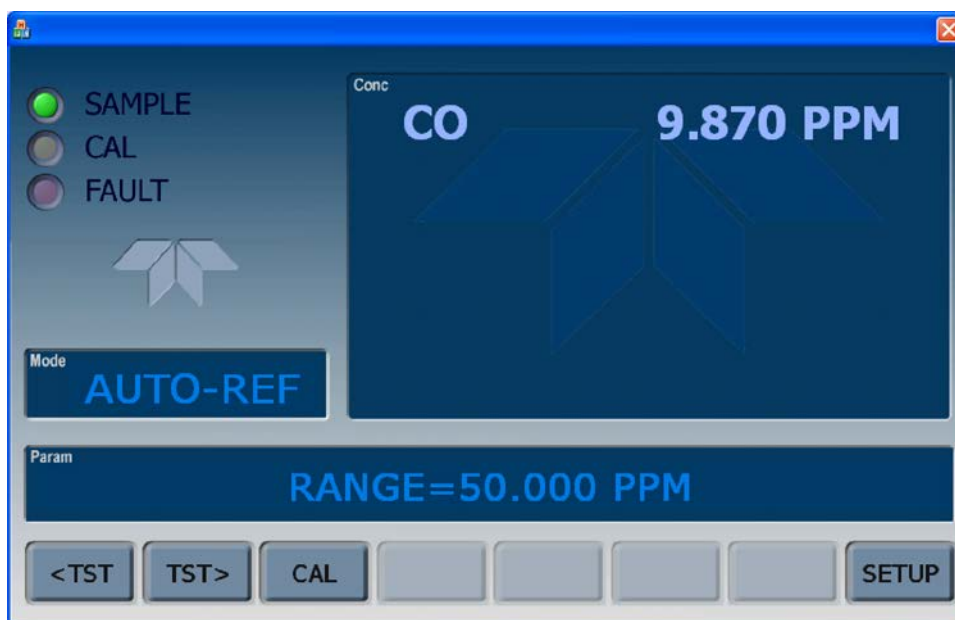

Figure 4-1: Display during A-REF Mode
- Displays **AUTO-REF** in the Mode field of the analyzer's front panel (see menu chart, Figure 4-1).